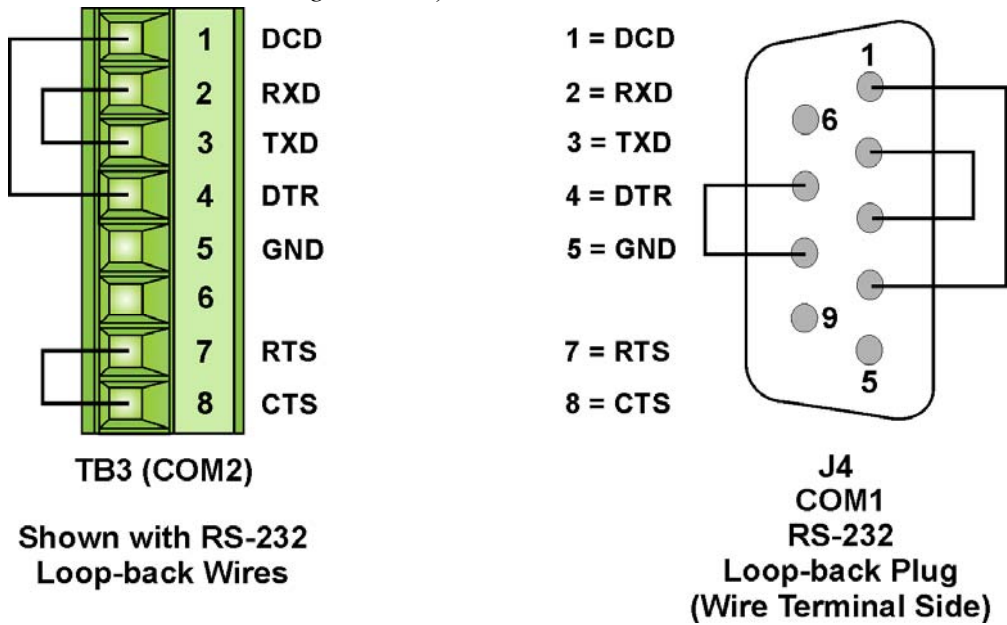

Figure 5-10. COM1 & COM2 RS-232 Loop-back Plug/Wires
- Port 1 - RS-232 uses a 9-pin female D-type loop-back plug (see *Figure 5-10*).
- Port 2 - RS-232 use loop-back wires (see *Figure 5-10*).